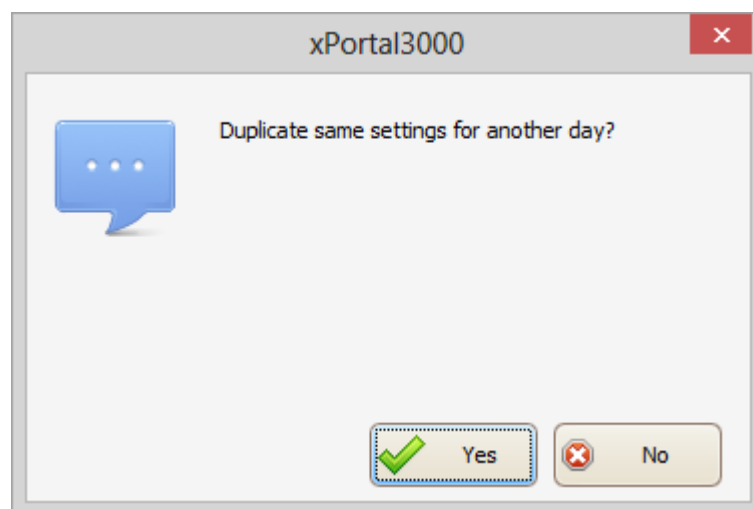
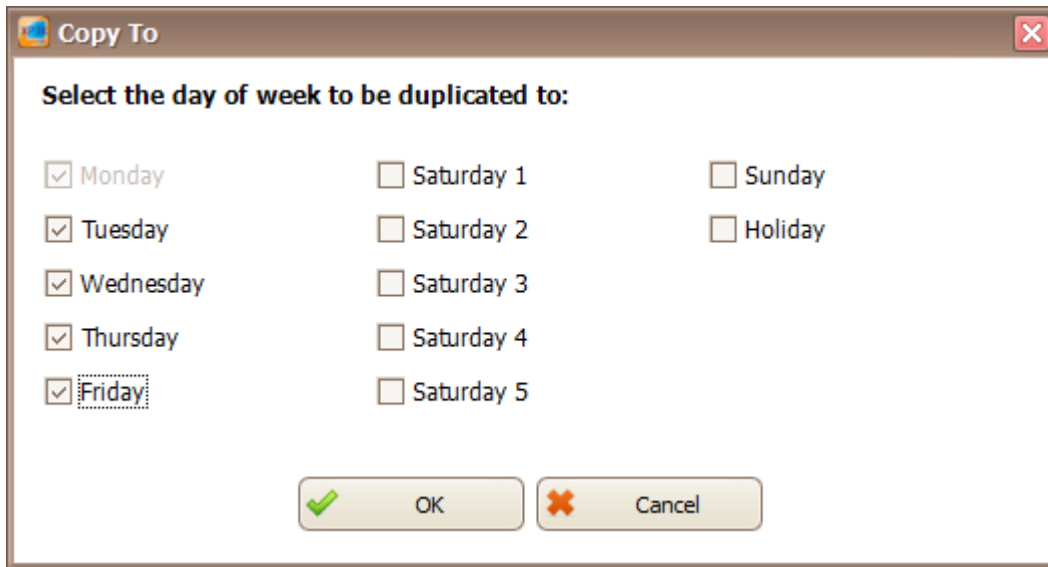

Figure 60 - Duplicate settings
Figure 61 - Day to duplicate the schedule
11. A screen to duplicate setting will be shown to duplicate setting for other day of the week (Refer **Figure 60** and **Figure 61**).